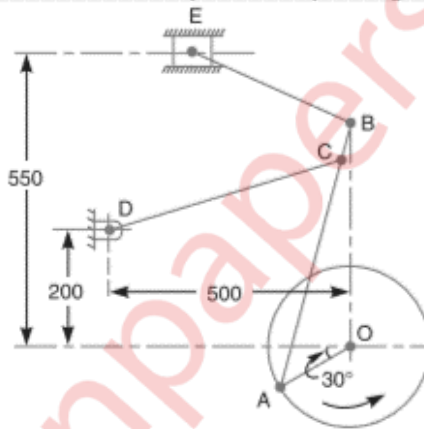

Figure 2
- Q.4 A. The mechanism as shown in fig. 2 of a radial valve gear. The crank OA turns uniformly at 150 r.p.m and is pinned at A to rod AB. The point C in the rod is guided in the circular path with D as centre and DC as radius. The dimensions of various links are: OA = 150 mm ; AB = 550 mm ; AC = 450 mm ; DC = 500 mm ; BE = 350 mm. Determine velocity and acceleration of the ram E for the given position of the mechanism. 14